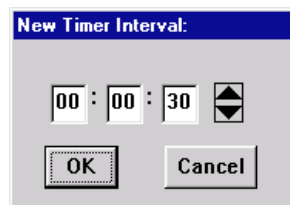

Figure 3-3. New Timer Interval Text Box
1. Click on the clock symbol () next to the **Interval** text box. The New Timer Interval text box, Figure 3-3, will appear.